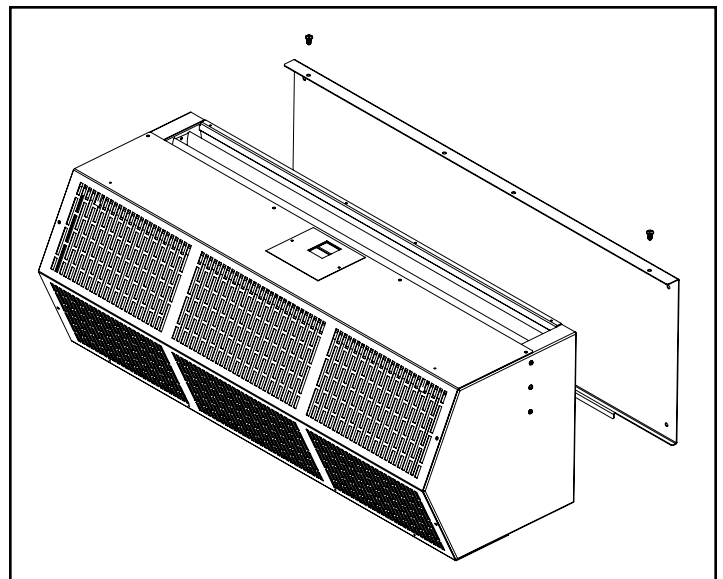

Figure 1
If the air curtain was ordered with a wall mounting plate, remove and save the two (2) locking screws from the back corners and detach the wall mounting plate. **See Figure 1.**